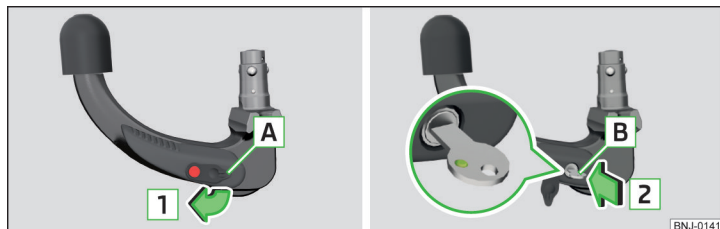

Fig. 130 Remove cap from the lock / insert key into the lock
- Remove the cover **A** from the lock in the direction of the arrow **1** » Fig. 130.